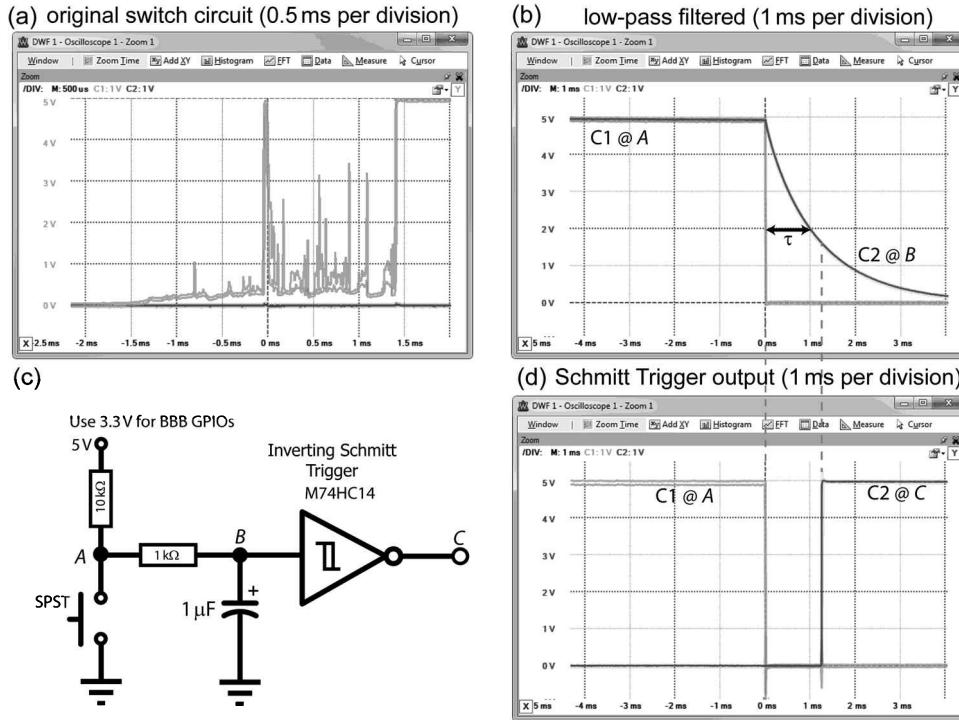

Figure 4-20: (a) Switch bouncing with no components other than the switch and 10 k Ω resistor
Figure 4-20(a) illustrates the problem in action using the rising/falling-edge trigger condition of the Analog Discovery Oscilloscope. A momentary push button is placed in a simple series circuit with a $10\text{k}\Omega$ resistor and the voltage is measured across the resistor. When the switch hits the contact, the output is suddenly high, but the switch then bounces back from the contact and the voltage falls down again. After about 2–3ms (or longer) it has almost fully settled. Unfortunately, this small bounce can lead to false inputs to a digital circuit. For example, if the threshold were 3V, this may be read in as 101010101.
- A low-pass filter can be added in the form of a resistor-capacitor circuit as illustrated in Figure 4-20(c) using a $1\mu\text{F}$ capacitor. Unfortunately this leads to delay in the input. If you examine the time base, it takes about 2ms before the input reaches 1V. Also, bounce conditions can delay this further. These values are chosen using the *RC time constant* $\tau = R \times C$, so $\tau (\text{s}) = 1,000\Omega \times 10^{-6}\text{F} = 1\text{ms}$, which is the time taken to charge a capacitor to $\sim 63.2\%$ or discharge it to $\sim 36.8\%$. This value is marked on Figure 4-20(b).
- For momentary push button switches (SPSTs), a Schmitt trigger (74HC14N), which is discussed in the next section, can be used with an RC low-pass filter as in Figure 4-20(c).
The *Schmitt trigger* in Figure 4-20(c) exhibits the same type of behavior. The V_{T_+} for the M74HC14 Schmitt trigger is 2.9V and the V_{T_-} is 0.93V when running at a 5V input, which means that a rising input voltage has to reach 2.9V before the output changes high, and a falling input voltage has to drop to 0.93V before the output changes low. Any bounce in the signal within this range is simply ignored. The low-pass filter reduces the possibility of high-frequency bounces. The response is presented in Figure 4-20(d). Note that the time base is 1ms per division, illustrating how “clean” the output signal is. The configuration uses a pull-up resistor, the need for which is discussed shortly.